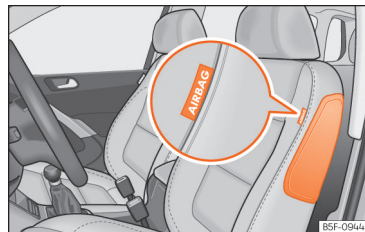
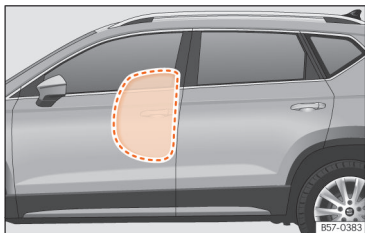

Fig. 31 Side airbag in driver's seat.
Fig. 32 Illustration of completely inflated side airbag on left side of vehicle.
The side airbags are located in the front seat backrests >>> **Fig. 31** , >>> **Fig. 32**.
- Ensure that children are correctly seated in their seats and that their heads are not in the deployment zone of the side airbags >>> **Fig. 32**, as deploying airbags could hit them and cause serious injury.